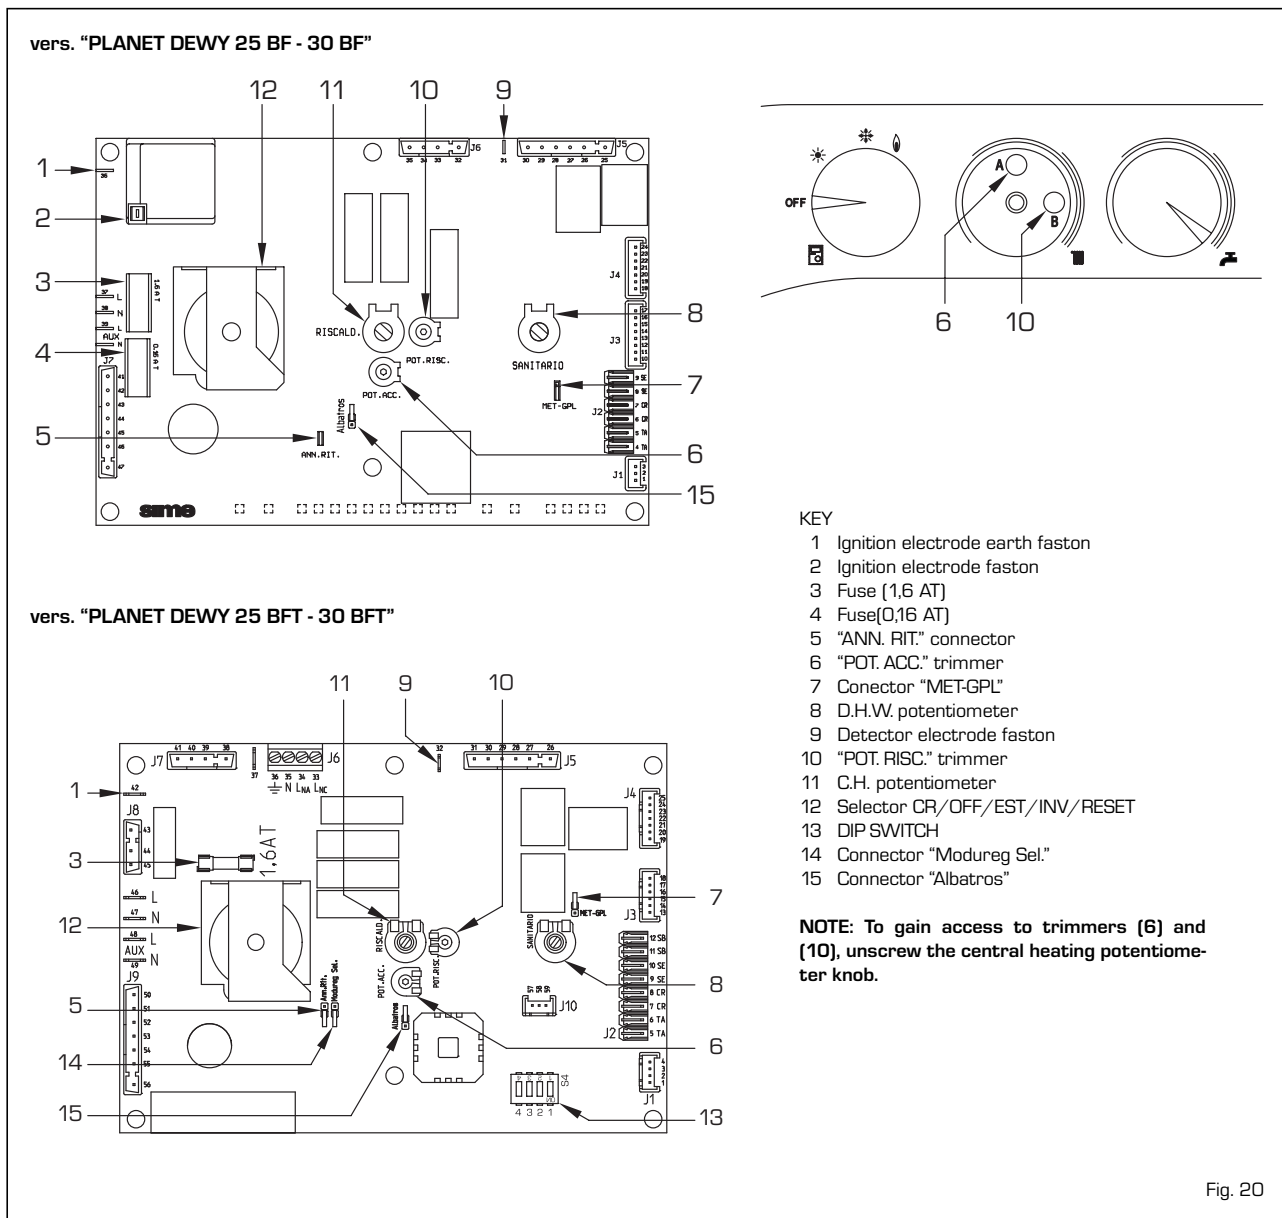

Fig. 20
- "POT. RISC." trimmer (10 fig. 20)
- "POT. ACC." trimmer (6 fig. 20)
- "MET-GPL" connector (7 fig. 20)
- "ANN. RIT." connector (5 fig. 20)
- DIP SWITCH (13 fig. 20)
- "Modureg Sel." connector (14 fig. 20)
- "Albatros" connector (15 fig. 20)
To adjust boiler heat output for heating purposes, i.e., modifying the setting made at the factory which is approximately 17 kW, use a screwdriver to adjust the heating heat output trimmer (10 fig. 20).